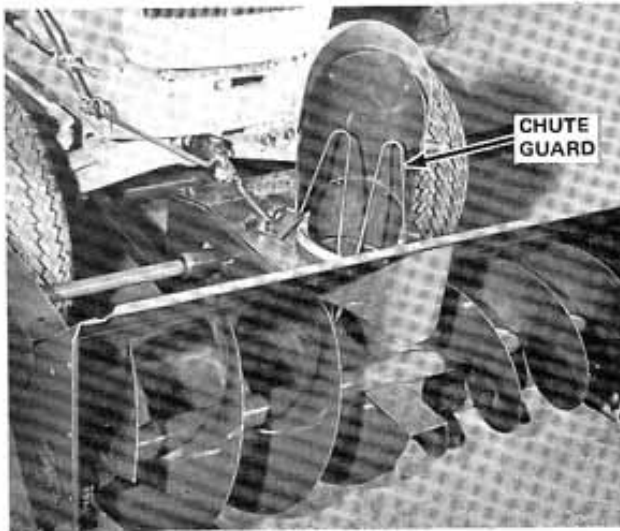

Figure 3
4. Install chute guard, depress sides and snap ends into holes provided in chute. See Figure 3.